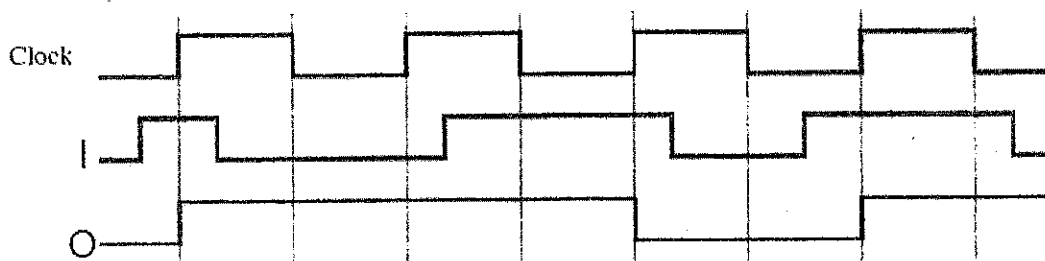

Figure Q6: Timing Diagram (I: Input, O: Output)
- (a) Construct the sub-unit which produces the following timing diagram shown in Figure Q6 using suitable digital logic gates and a Flip Flop. Clearly show the input and output signals of each component. [08 Marks]